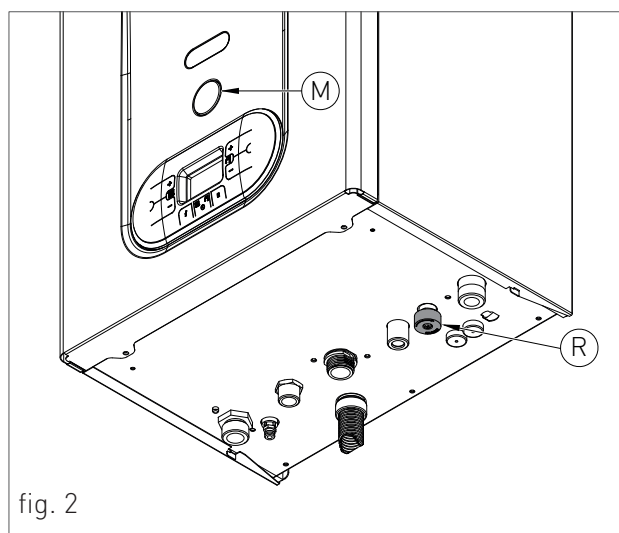
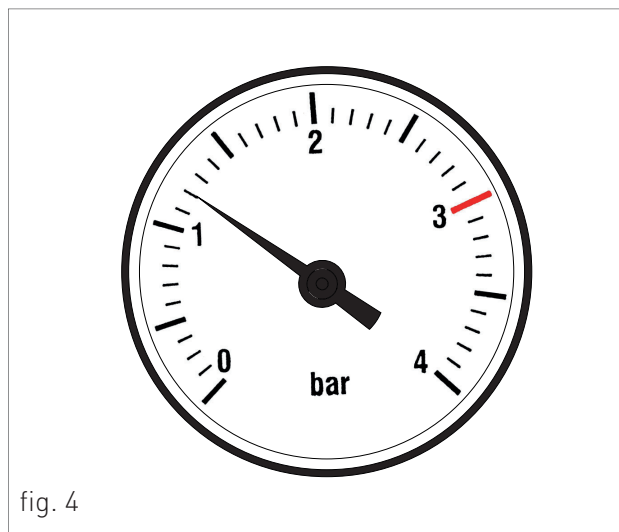

fig. 2
fig. 4
4. open the feeding tap "R" (fig. 2);
6. use pressure gauge "M" (fig. 2) to make sure that the system pressure reaches 1.2 bar (fig. 4);
7. after performing this operation, make sure that the loading tap "R" (fig. 2) is properly closed.
10. If after performing these operations you observe a decrease of the water pressure inside the system, open once again the loading tap "R" until the pressure gauge indicates the value of 1.2 bar (fig. 4).